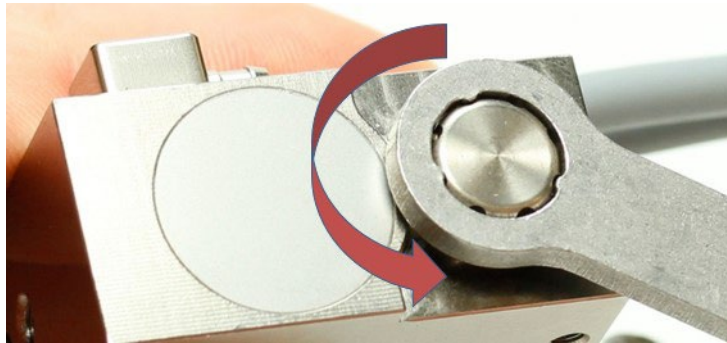

Fig. 79: Screw open adjust screw
1. Send the command "ADJUST:START" to the control unit via RS-232C. The system returns the message "Adjust Screw OUT Press Enter". Screw open the adjust screw completely (counter-clockwise, see Fig. 79, torque for screwing it open is approx. 50 – 60 cN.m).